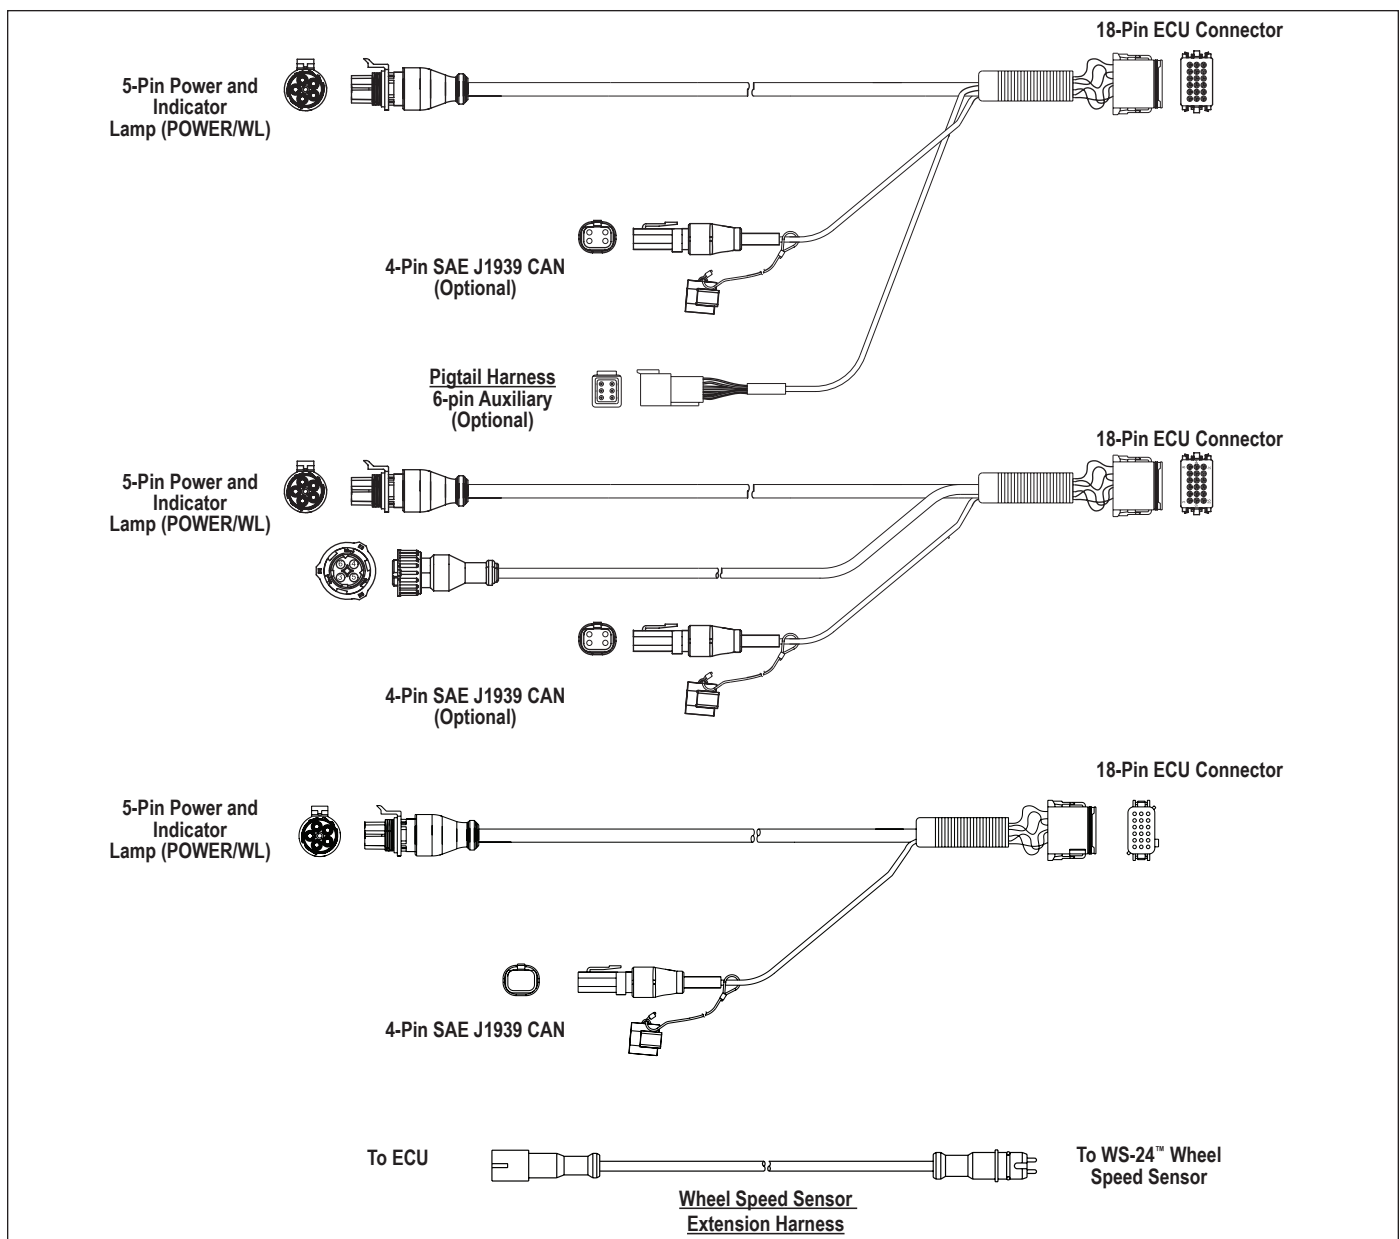

FIGURE 6 - EXAMPLES OF PIGTAIL WIRE HARNESSSES
- **Pigtail Wiring Harness:**A power pigtail harness is required, variations that include auxiliary sub-harnesses are available, as needed. See Figure 6.
- **Load Sensor:** If a trailer is equipped with an external electrical spring deflection sensor, *See Figure 4*, a linkage is attached to an axle (but must not be installed on a lift-axle) – within (five) 5 in. of the center of the axle – connects to a load sensor attached to the chassis of the vehicle. The output from the sensor is an electrical signal that is proportional to the spring deflection. The connection to the Electronic Control Unit (ECU) is via an auxiliary sub-harness (part of the power harness). *See Figure 6*.
See Figure 6.